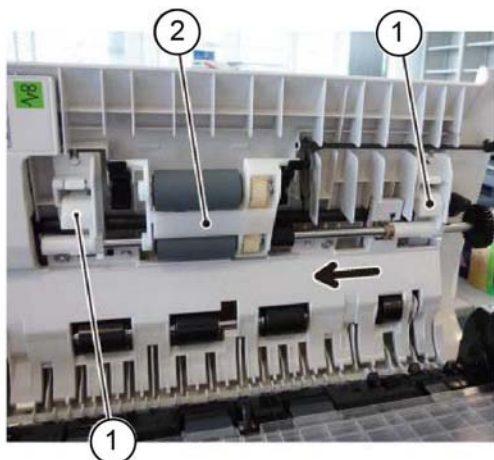

Figure 1 Assembly removal
2. Remove the feed roll nudger roll assembly, Figure 1:
- a. Release the hooks (1) of the feed front/rear handle.
- b. Move the feed/nudger roll assembly (2) in the direction of the arrow, then remove it.